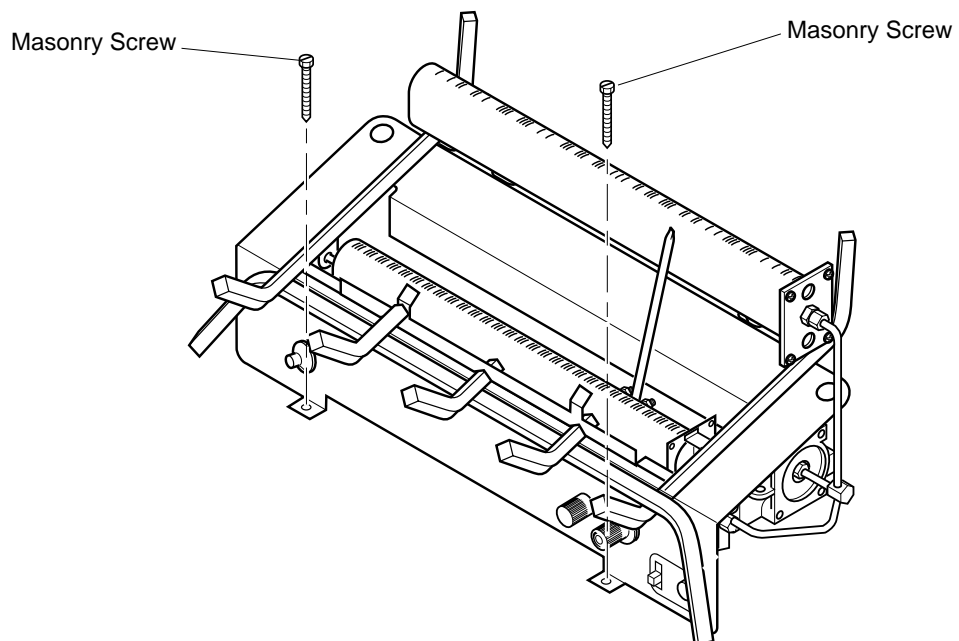

Figure 11 - Attaching Base to Fireplace Floor
3. Mark screw locations through holes in front panel of base (see Figure 11). If installing in a brick-bottom fireplace, mark screw locations in mortar joint of bricks.